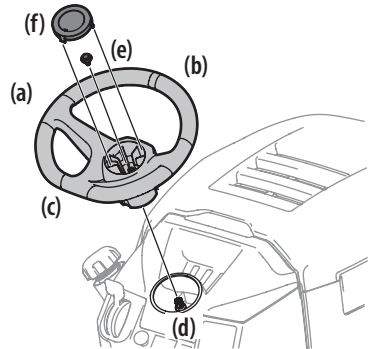

Figure 14
1. With the wheels of the tractor pointing straight forward, align the steering wheel (a) by using the center-line (b) on the front of the steering wheel (a) pointing straight ahead and the flat section (c) of the steering wheel (a) facing toward the seat, place the steering wheel (a) over the steering shaft (d). See Figure 14.
2. Secure the steering wheel (a) with the hex bolt (e) from under the steering wheel cap (f) and torque to 18-22 ft-lbs (24.4-29.8 N-m). See Figure 14.